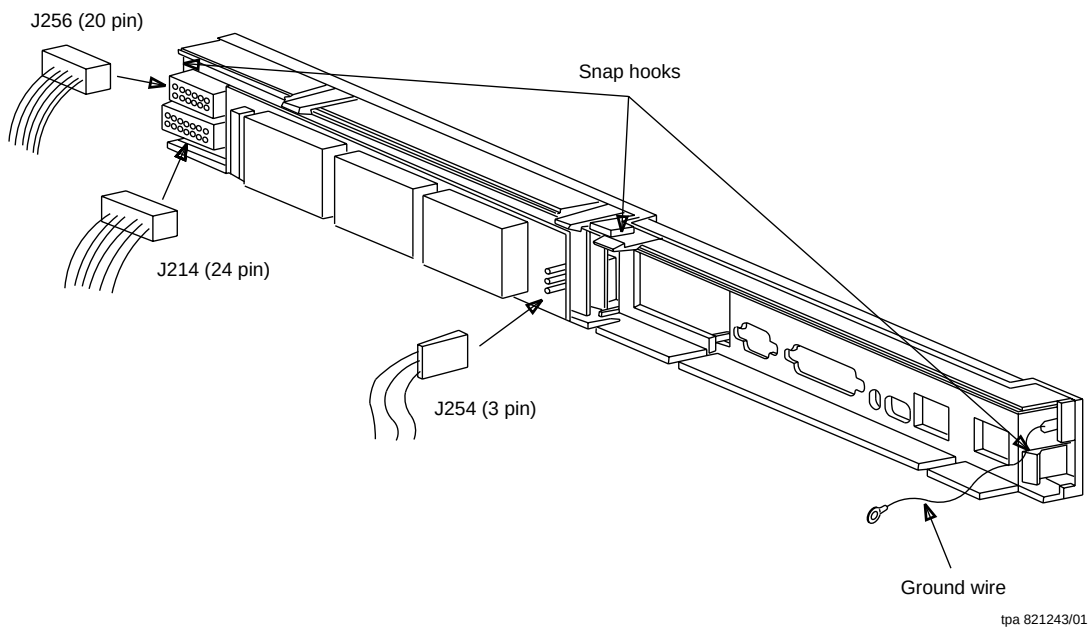

Figure 2 – UIP Display Panel Ground Wire Connection to the ARM Shelf
6. Install the ESD ground wire that is connected to the ARM shelf to the ESD connector on the back of the user interface display panel (Figure 2). The ring lug should be installed between the two nuts on the connector.